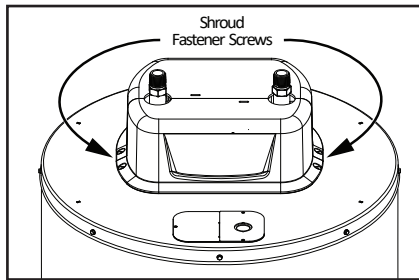

Figure 30 - Shroud fastener screw locations.
2 Using a 1/4" nut driver, locate and remove the four (4) screws securing the shroud cover to the top of the heater. Lift the shroud cover up and away from the top of the heater. See Figure 30.